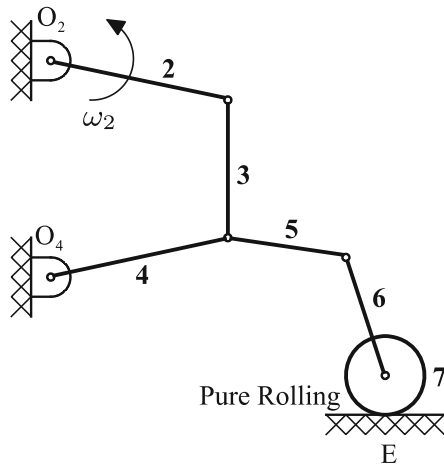

Fig. 2.49 Mechanism with 21 instantaneous centers
13. In the mechanism in Fig. 2.49, if ω_2 is known, the mechanism has 21 instantaneous centers. How many of them can be determined?